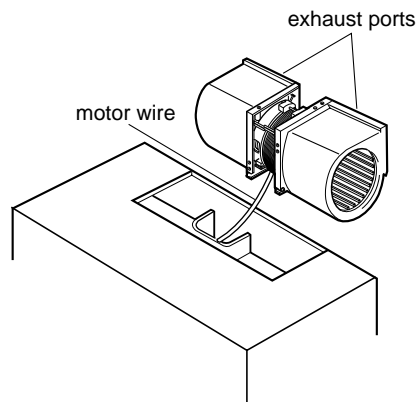

Figure 15
3. Rotate the vent motor 180° so the exhaust ports face the back of the cabinet. See Figure 15.